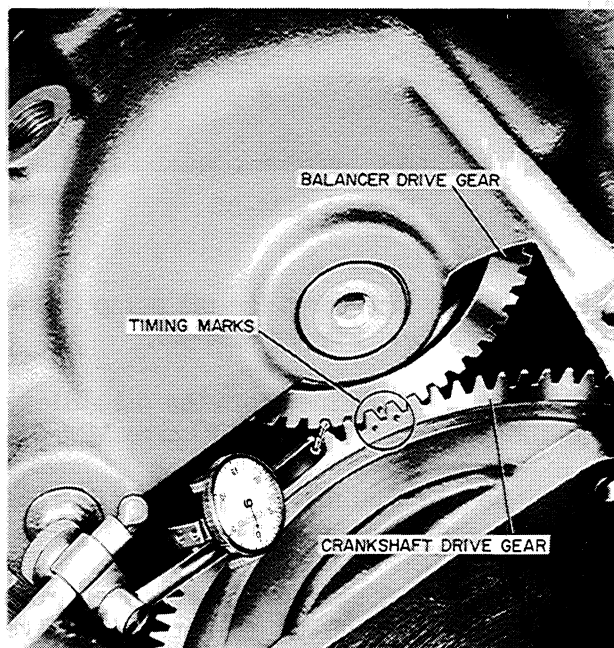

Figure MM-34
2. Shim all four mounting pads for proper backlash between the crankshaft drive gear and balancer gear. The proper backlash is from .008 inch to .013 inch and it should be checked with a dial indicator at three positions 120° apart on the crankshaft drive, Figure MM-34.